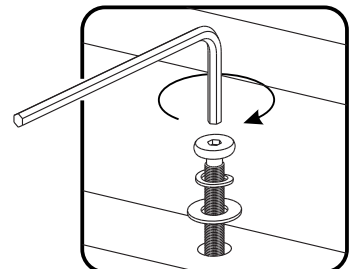

Figure 3
Attach Slides (D) to unit with Flat Washers (small), Spring Washers (small), Head Cap Bolts and Wood Screws. (See Figures 3 and 4)